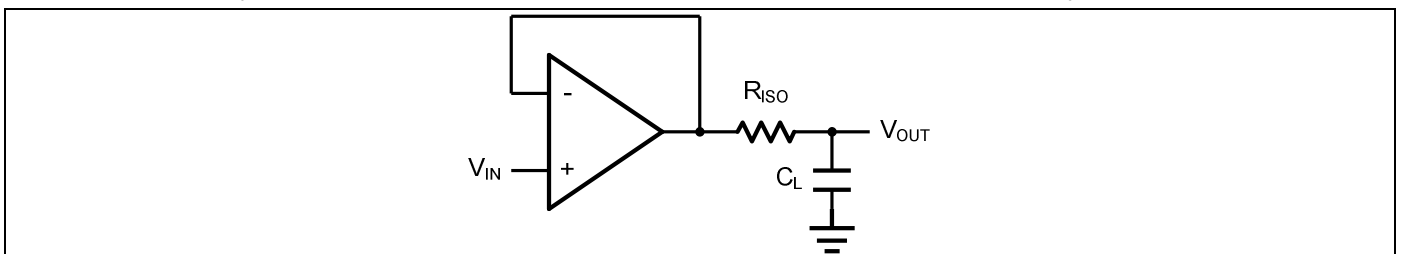
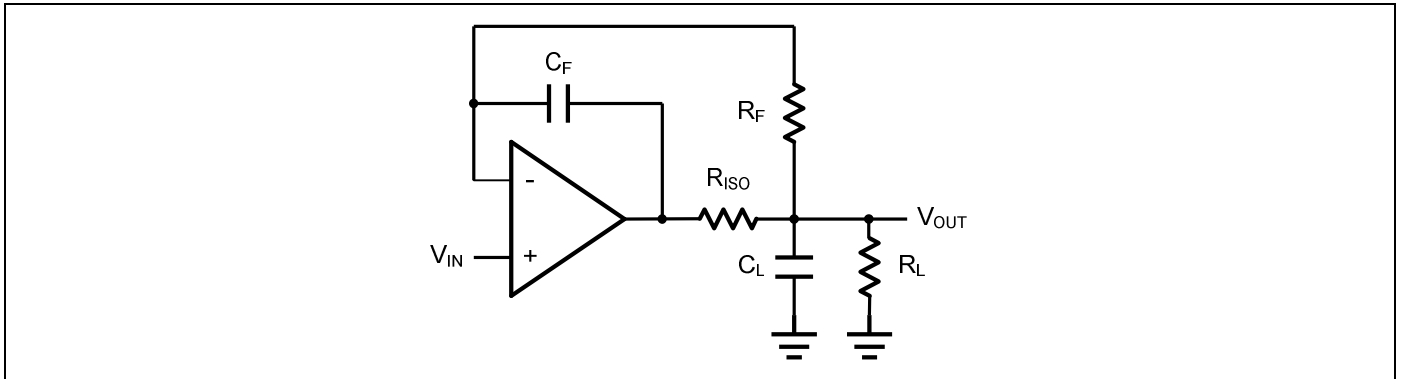

Figure 2. Indirectly Driving a Capacitive Load Using Isolation Resistor
Figure 3. Indirectly Driving a Capacitive Load with DC Accuracy
The OPAx376 family is optimized for bandwidth and speed, not for driving capacitive loads. Output capacitance will create a pole in the amplifier's feedback path, leading to excessive peaking and potential oscillation. If dealing with load capacitance is a requirement of the application, the two strategies to consider are (1) using a small resistor in series with the amplifier's output and the load capacitance and (2) reducing the bandwidth of the amplifier's feedback loop by increasing the overall noise gain. Figure 2. shows a unity gain follower using the series resistor strategy. The resistor isolates the output from the capacitance and, more importantly, creates a zero in the feedback path that compensates for the pole created by the output capacitance.
The circuit in Figure 3 is an improvement to the one in Figure 2. R_F provides the DC accuracy by feed-forward the V_{IN} to R_L . C_F and R_{ISO} serve to counteract the loss of phase margin by feeding the high frequency component of the output signal back to the amplifier's inverting input, thereby preserving the phase margin in the overall feedback loop. Capacitive drive can be increased by increasing the value of C_F . This in turn will slow down the pulse response.